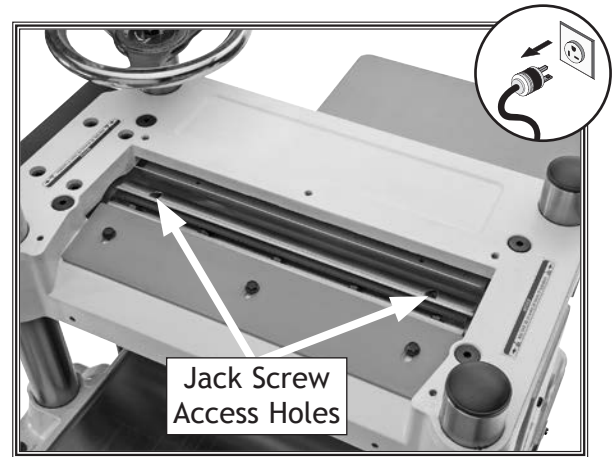
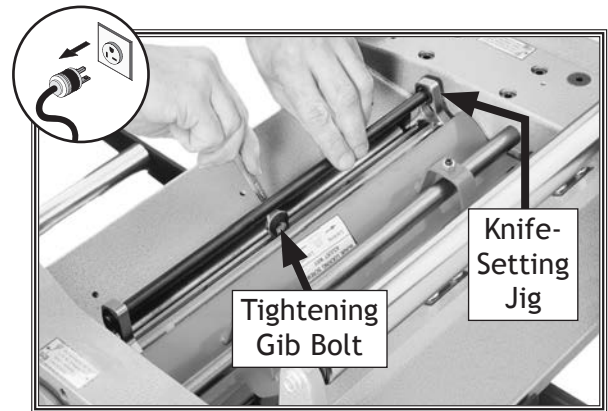

Figure 20. Example of jack screw access holes in cutterhead.
Figure 21. Example of using knife-setting jig to set knife height.
7. Insert hex wrench into access holes in cutterhead (see **Figure 20**), and rotate jack screws to raise or lower knife until it barely touches center pad of knife-setting jig with all legs of jig still firmly on cutterhead, then snug gib bolts enough to hold knife in place without fully tightening gib bolts (see **Figure 21**).